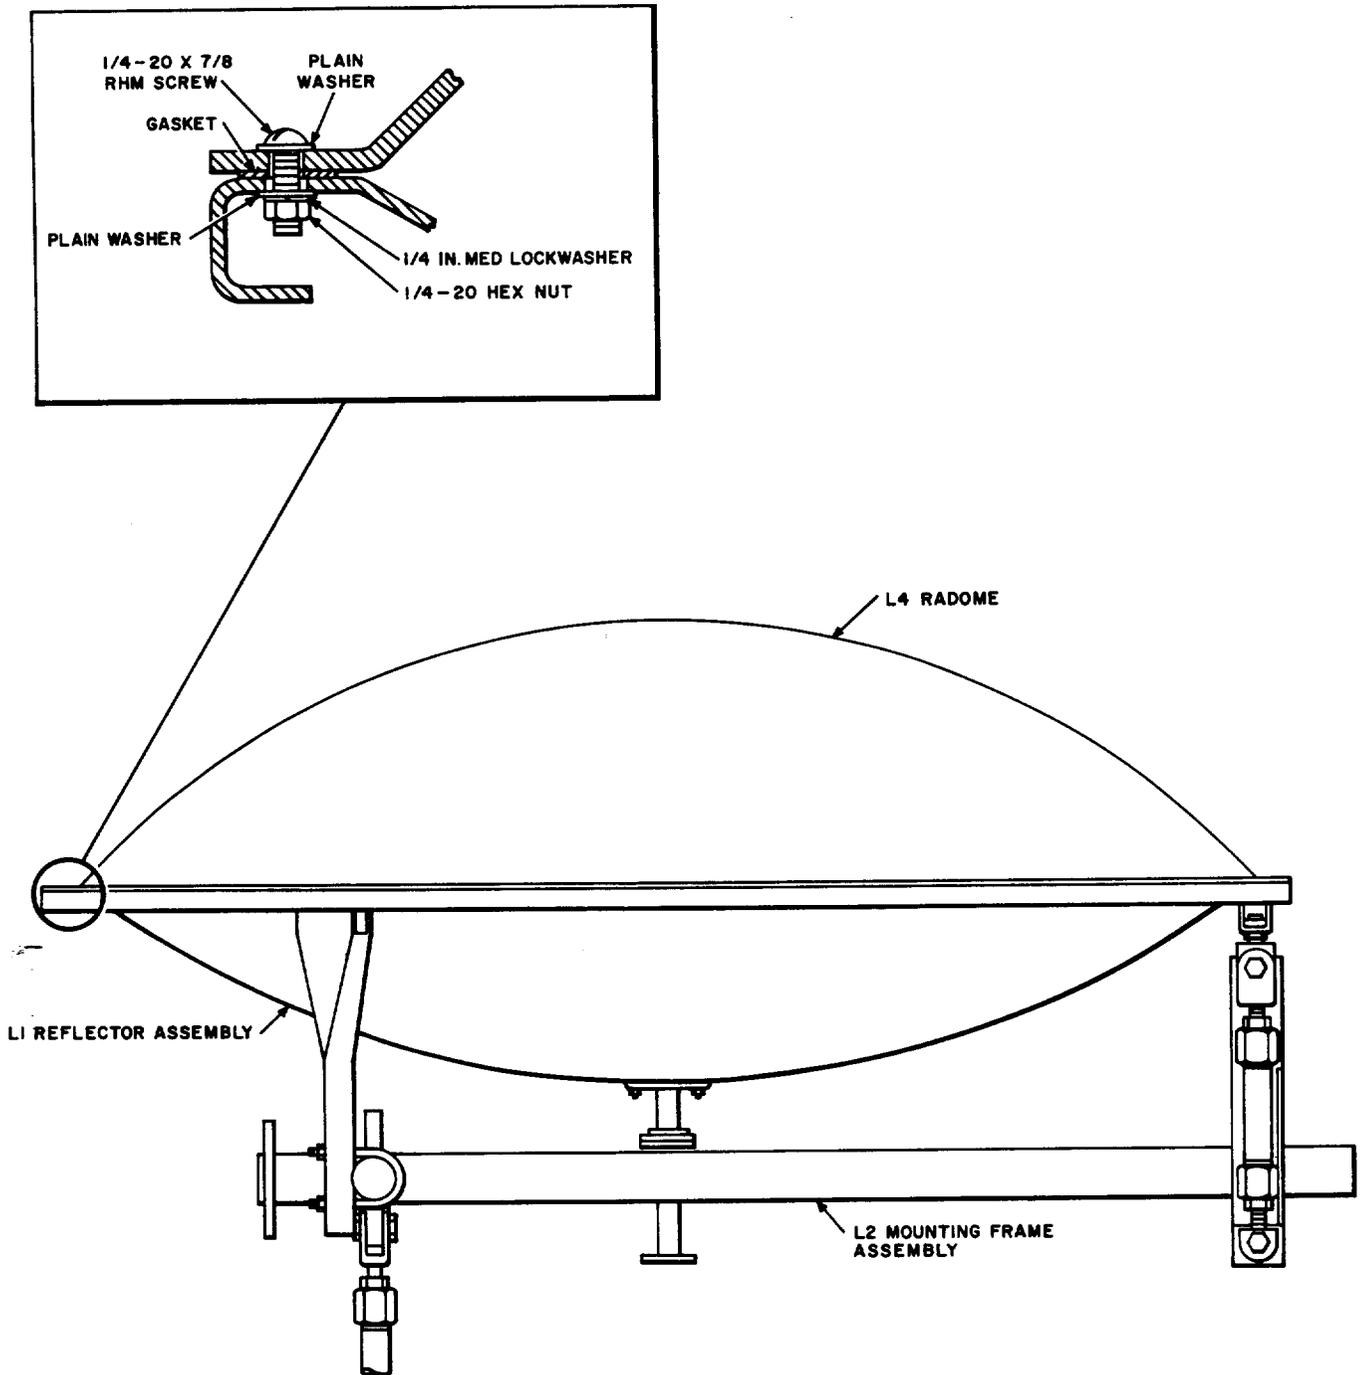

Fig. 3—Installation of Radome on Reflector
- 4.05** Place the rubber gasket, shipped with the radome, over the lip of the reflector as shown in Fig. 3. Align the 32 holes in the gasket with the holes in the lip.